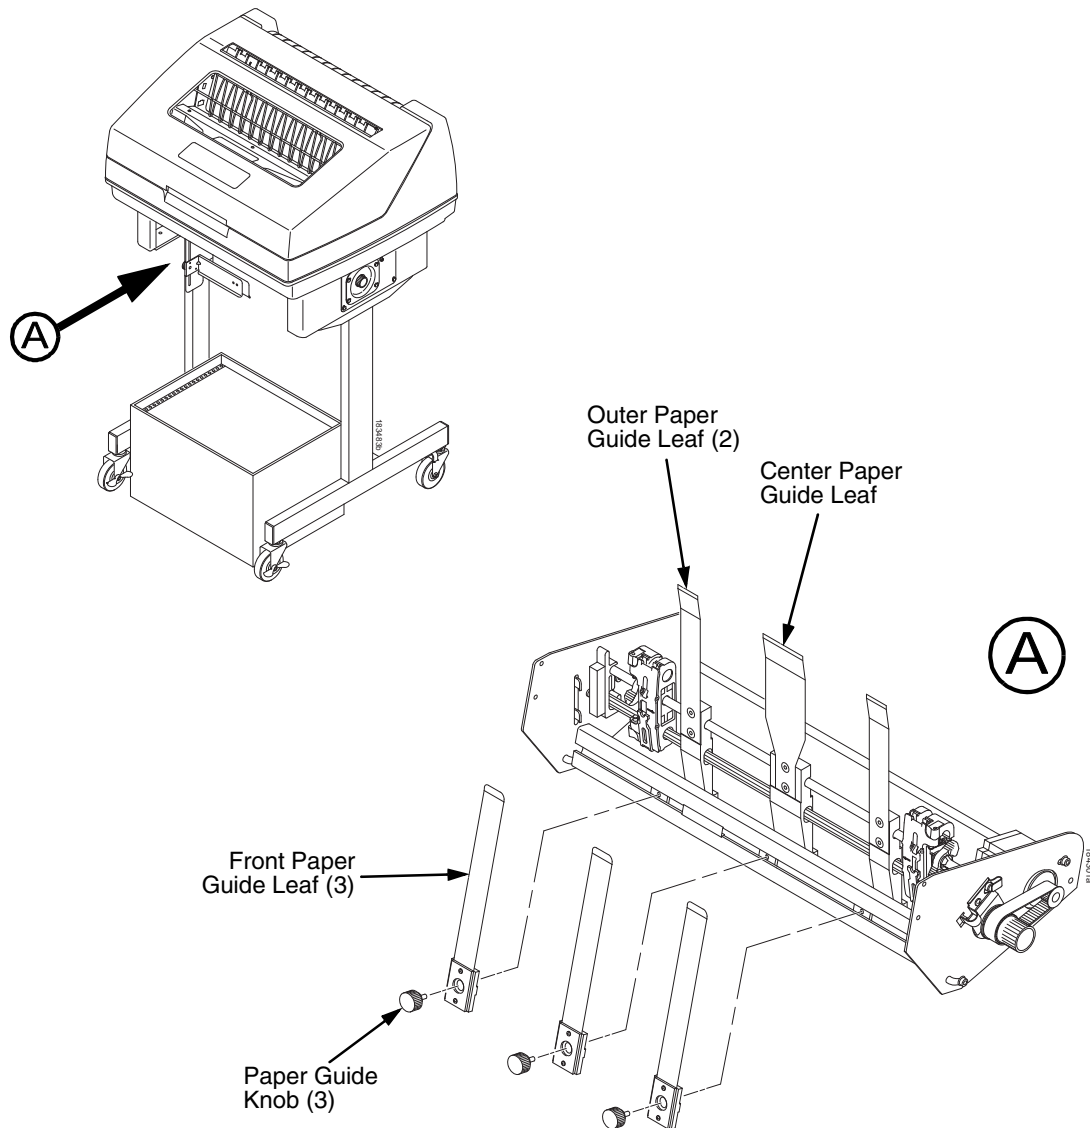

Figure 109. Adjusting The Paper Guides
1. Remove the left paper guide knob and the left, front paper guide leaf. (See Figure 109.)
7. Install the paper guide knobs and front paper guide leaves. (See Figure 109 on page 503.)